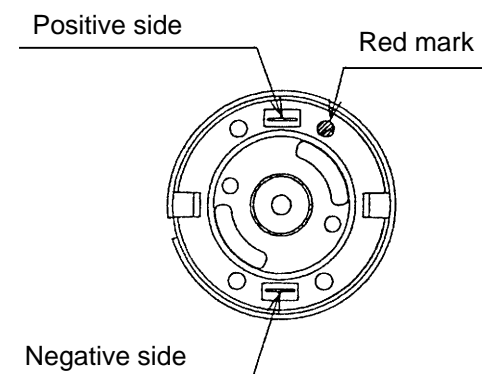

Fig. 6
- (b) Pay attention to the polarity of the Motor [25] when soldering Internal Wires (B) [32] and [33] to the Motor [25]. The red-marked side of the Motor [25] is positive. (See Fig. 6.)